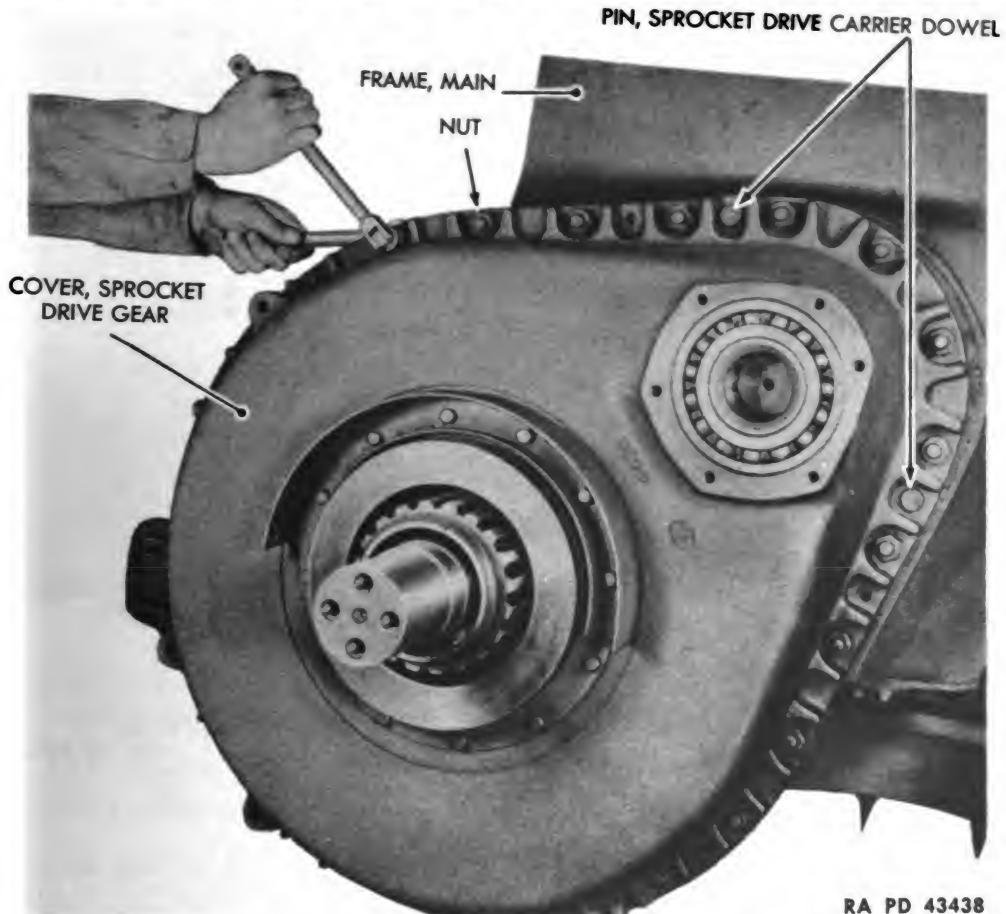

Figure 122 — Sprocket Drive Gear Cover Removal
(6) REMOVE SPROCKET DRIVE GEAR COVER (fig. 122).